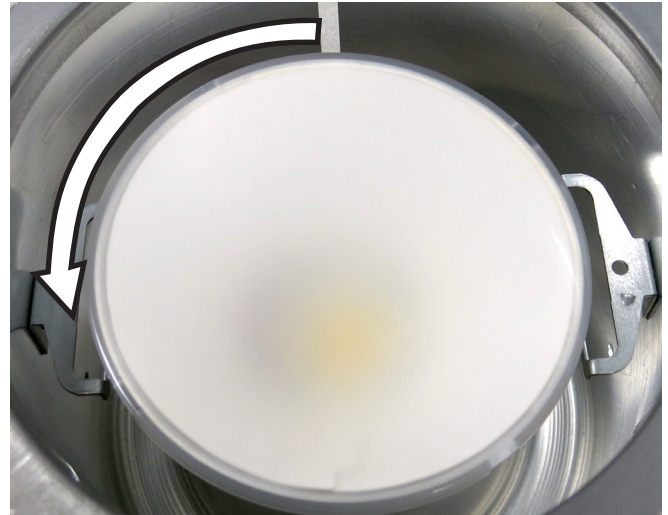

Figure 1
1. Remove OPTIC REFLECTOR from fixture by rotating  $\frac{1}{4}$  turn counter-clockwise (Figure 1). Discard or recycle.